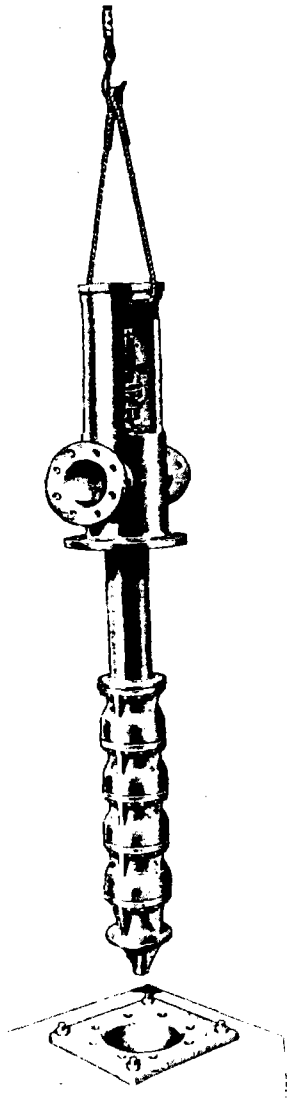

Figure 3-2. Pump Installation
- e. Lift pump until lower end is free of ground or floor (figure 3-2).